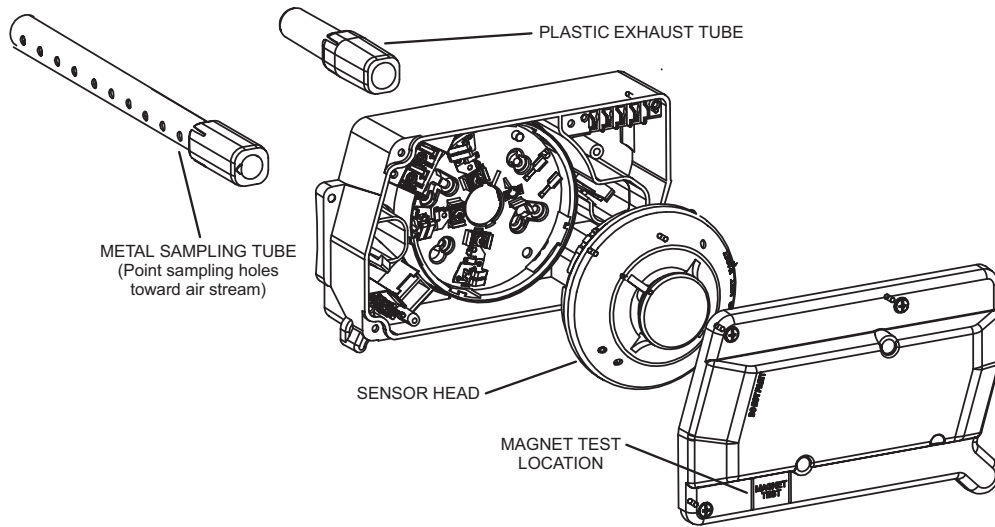

FIGURE 14
- 1 - Slide metal sampling tube onto the back side of the sensor as shown in FIGURE 14. When sensor is installed in return air applications, slide plastic exhaust tube onto back side of the sensor as shown in FIGURE 14.